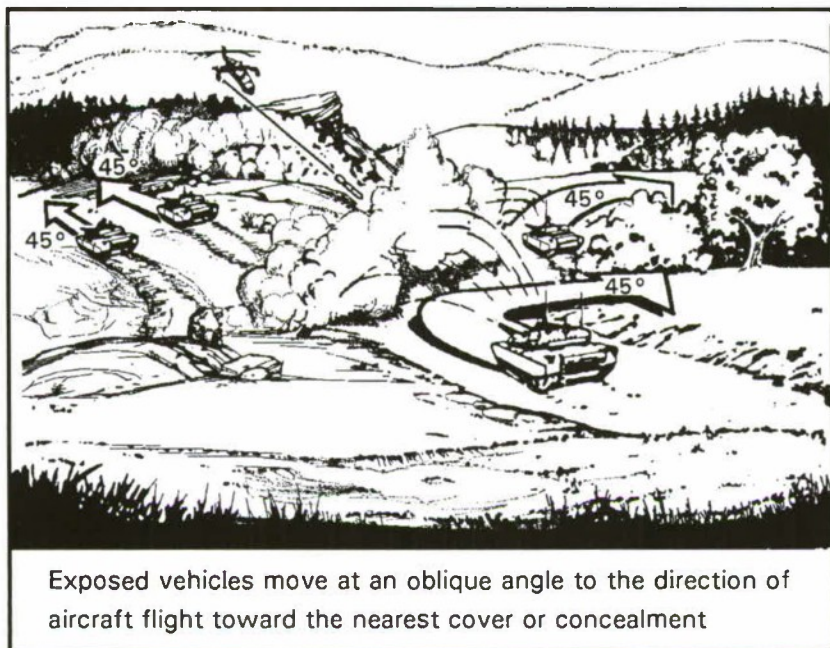

Figure 3-19. Evading enemy aircraft.
- Step 2. Tanks create a nonlinear target by moving as fast as possible at a 45-degree angle away from the path of flight and toward attacking aircraft (see Figure 3-19, page 3-42). The platoon maintains an interval of at least 100 meters between tanks, forcing aircraft to make several passes to engage the entire platoon.